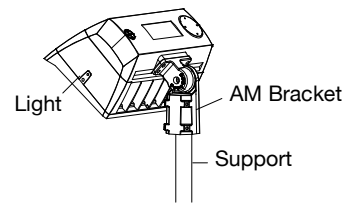

Figure 8
STEP 2: Loosen the fixing bolts and adjusting bolts, align the fixture to required angle. Tighten adjusting bolt and fixing bolts after the angle is confirmed. (FIGURE 8)
NOTICE: Adjustable angle is 0~±194° (FIGURE 8)